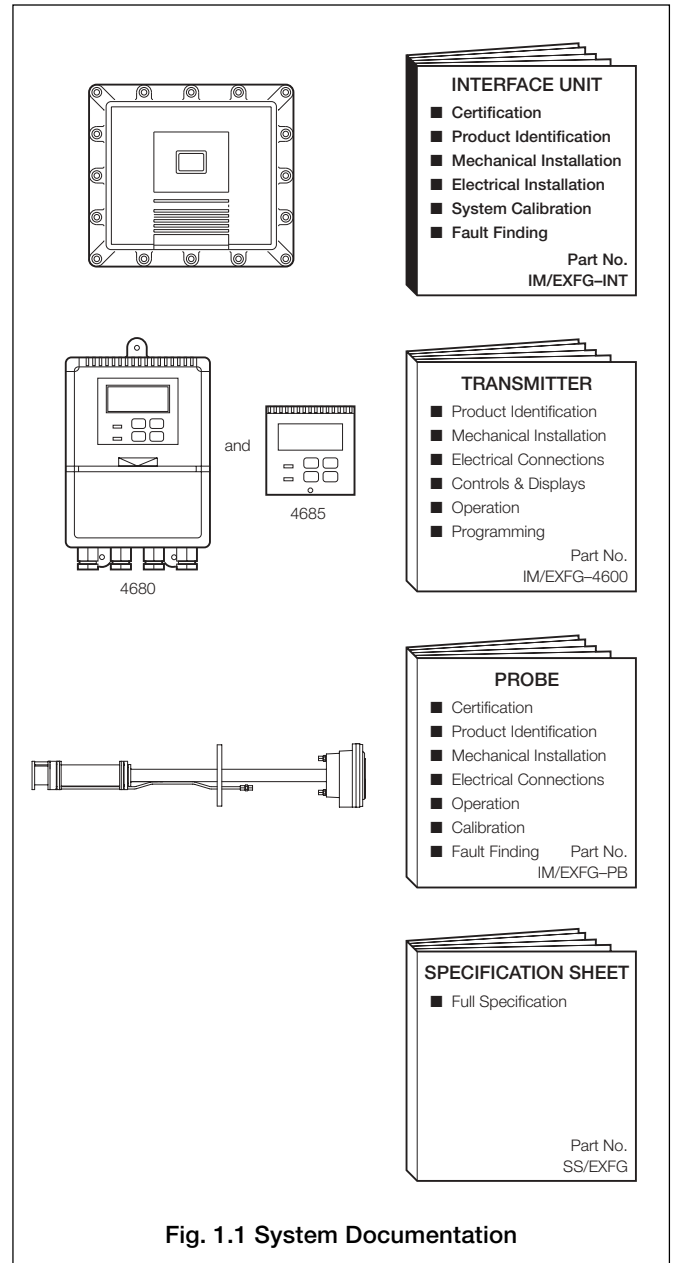

Fig. 1.1 System Documentation
1.1 Documentation – Fig. 1.1
Documentation for the EXFG Oxygen Analyzer System is shown in Fig. 1.1.